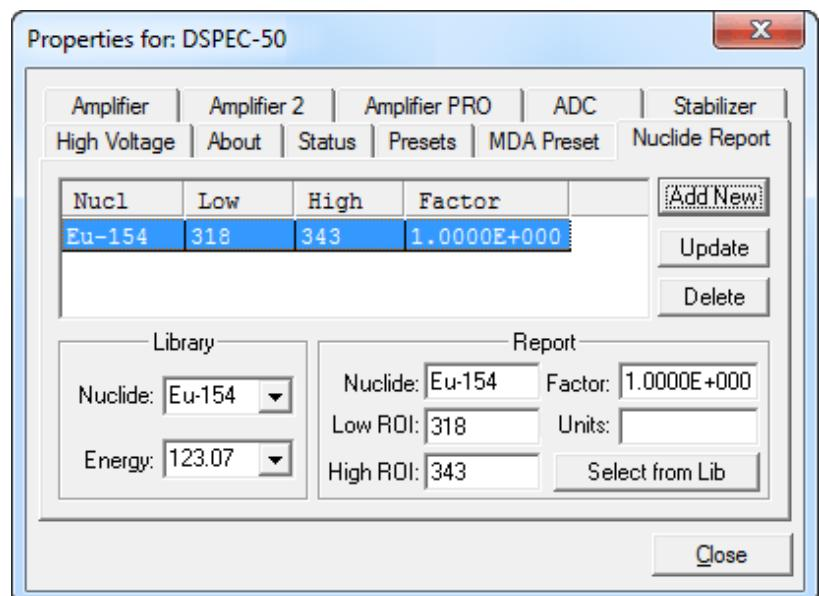

Figure 87. Nuclide Report Tab.
Figure 87 shows the Nuclide Report tab. The Nuclide Report displays the activity of up to nine (9) user-selected peaks. Once the report is set up, the two lowest-energy ROIs and their respective activity readouts are displayed on the DSPEC-50's Spectrum screen.